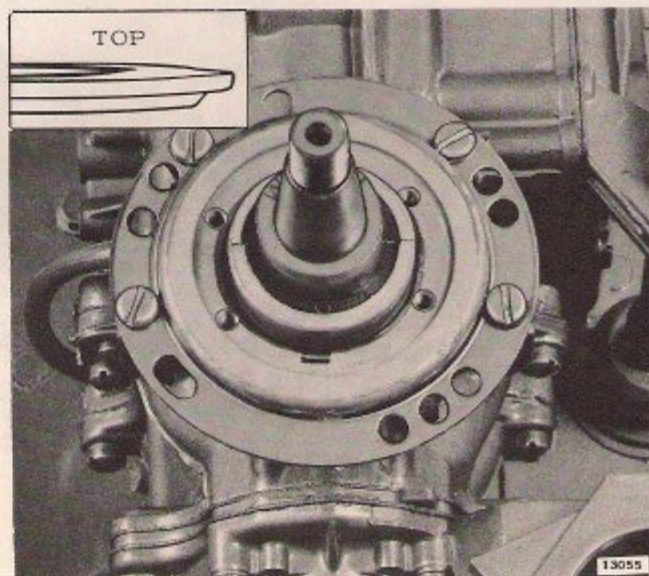

Figure 4-18. Magneto Support Position
c. Apply a coat of OMC Sea-Lube* Moly Lube to the magneto support retaining ring, and bushing in armature plate. Attach to power head. Make certain retaining ring is installed with tapered side down. Align screw holes of the magneto support ring to correspond to the position of the magneto. See Figure 4-18. DO NOT add oil or grease to the oiler wick on the magneto.